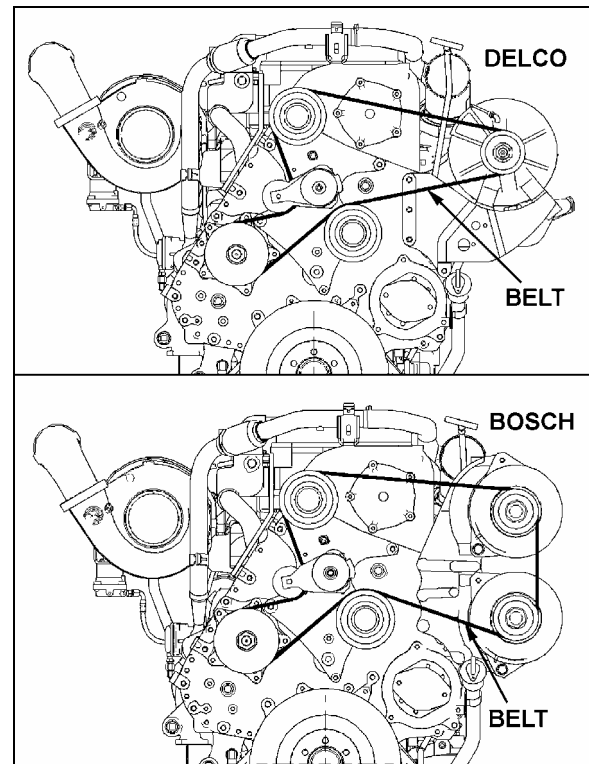

FIGURE 28: ALTERNATOR DRIVE BELT 06342
1. Insert a ¾ inch socket drive into one of the tensioning arm opening (Figure 28).